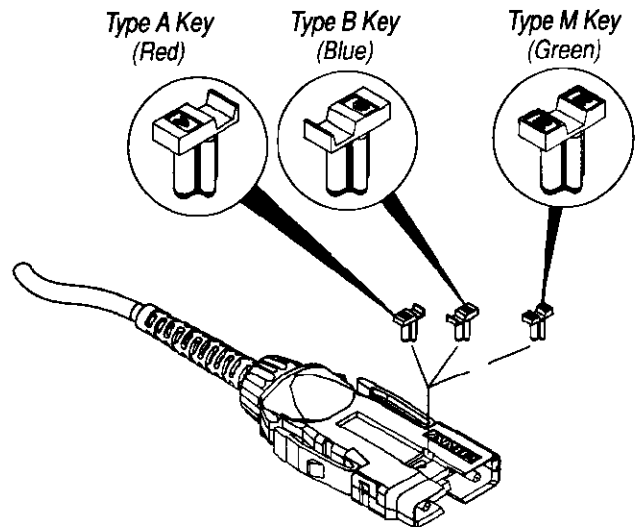

Figure 19
1. Place the two polished ferrules in the bottom half of the housing, snap on the top half (the half with keying slot), and screw the nut onto the housing. See Figure 19.
2. Install key as required for the application. The three keys included with the connector are listed below. Install the keys as shown in Figure 19.